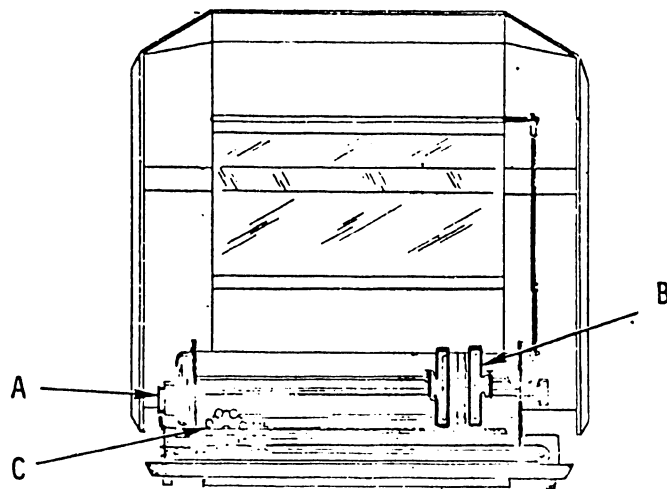

FIGURE 2-2 REMOVAL OF PACKAGING TAPE
- 9) Lift the cover (front lifts upward toward the rear) to remove the tape from the following areas: (Refer to Figure 2-2)).